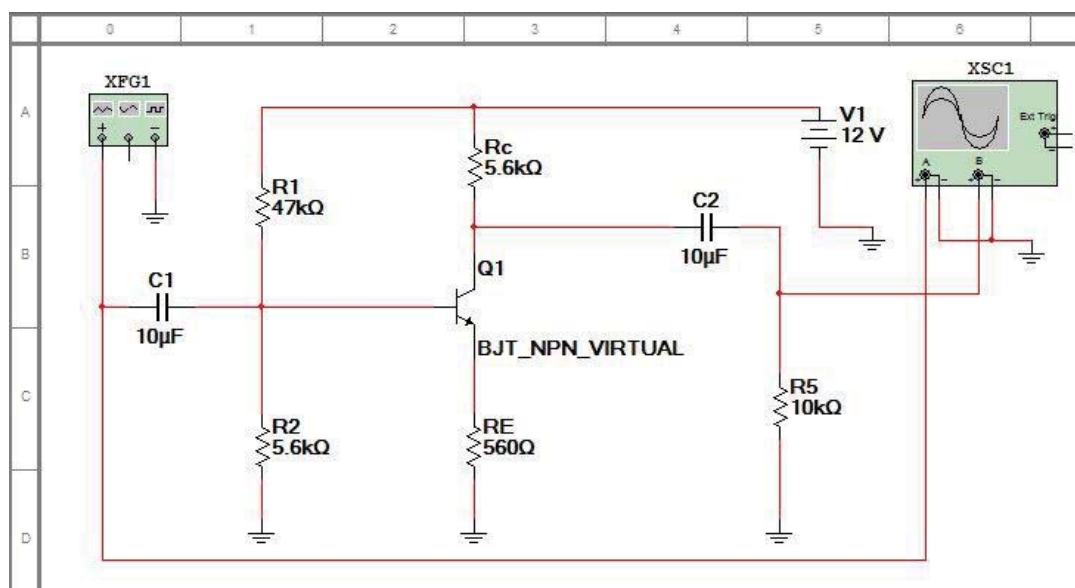

Figure 21
11. Now wire, connect, the Function Generator to the circuit input, at the 10 uF cap, and ground. Then wire the Oscilloscope to monitor both input and output signals. See Figure 21 for connection details.